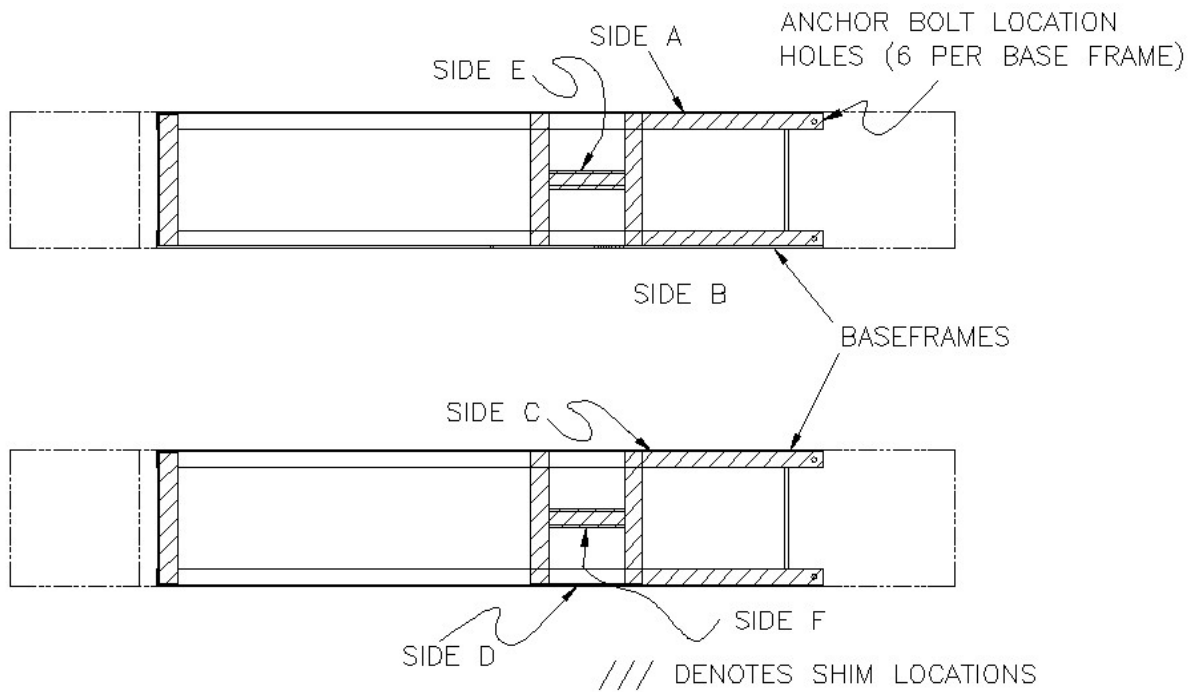

Figure 8 - Leveling Procedure Example
1. The highest point on the floor, noted from Section 6.1 step 6 is the point from which the base frame will be leveled from. Raise the lift to full height and, using a four (4) foot level across the base frames, verify again that this is the highest point.
2. Starting at the corner closest to the highest point, check along the length of the base frame edge with the four foot level and shim as required. **NOTE THE FIVE CRITICAL POSITIONS THAT SHIMS MUST BE PLACED ON EACH BASE FRAME OF EACH MAIN FRAME ASSEMBLY.** Refer to Figure 8.